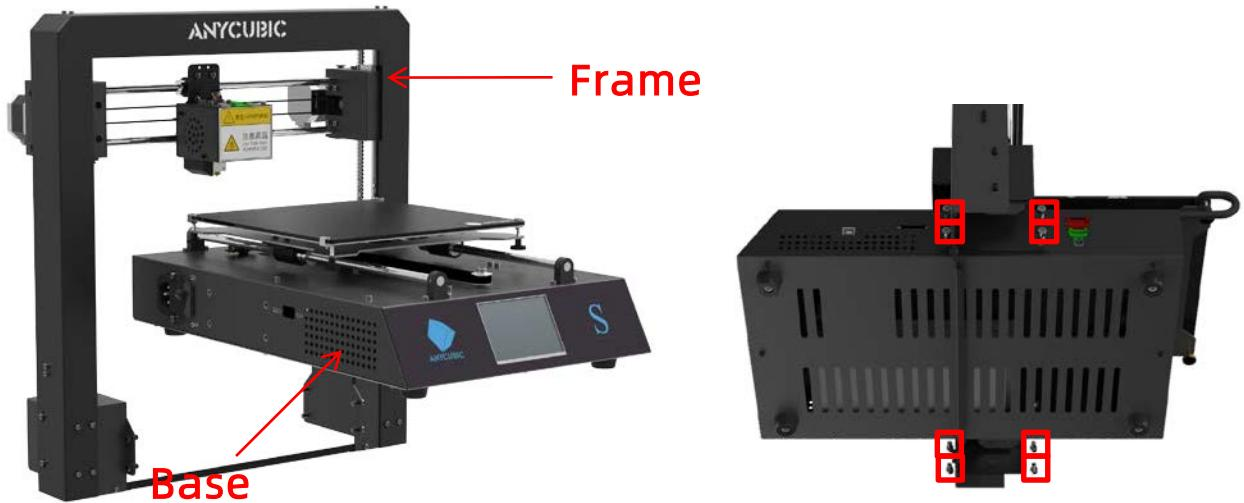

Figure 1
(1) Fig.1 , carefully lift the base to fit into the frame and fix them by 8 pieces of M5*8mm hex cap screws as shown in the red boxes.Fasten the screws when all the screws are pre-installed.